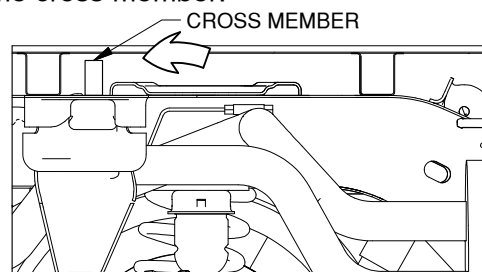

FIGURE B3: Cut-away view of under bed looking from passenger side of truck.
4. **Position the rear cross member.** Adjust the cross member so that it is parallel to the axle and slide it toward the rear of the truck until it is over the frame cross member where the wiring harness was attached. Rotate the cross member from flat to vertical so that the notch on the driver side of the cross member is down, see Figure B3. This notch provides clearance for the wiring harness and an exhaust bracket that is present on models that have dual exhaust. Slide the cross member rearward as far as possible while making sure that the wiring harness does not get pinched or smashed. The cross member will rest on the frame and should be suspended just above the frame cross member.